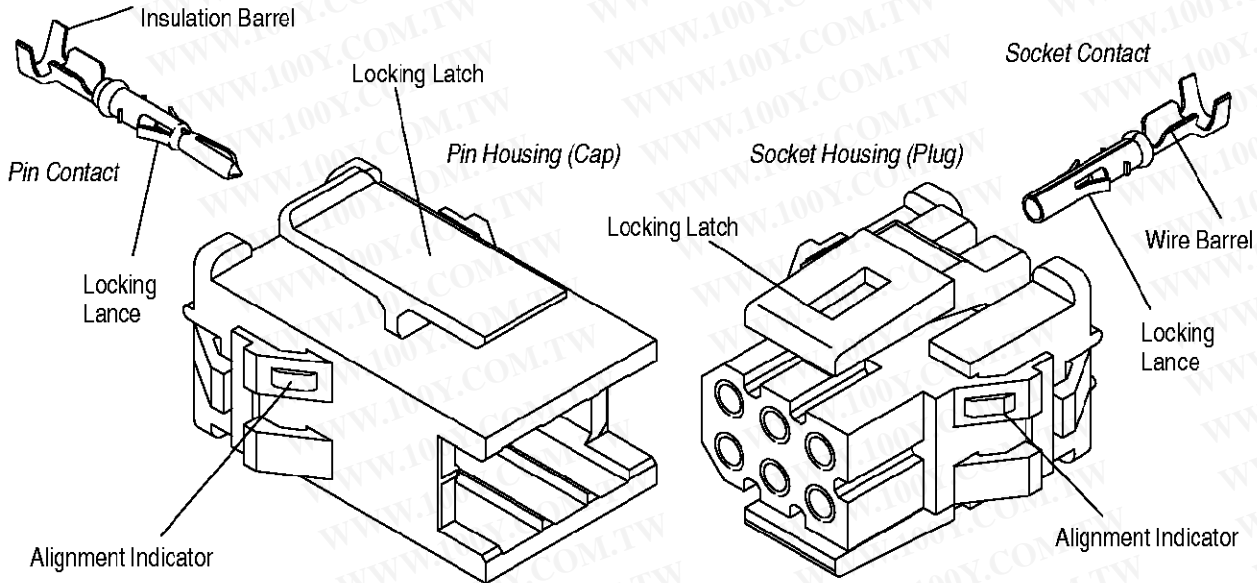

Figure 1
When corresponding with Tyco Electronics personnel, use the terminology provided on this specification to help facilitate your inquiry for information. Basic terms and features of components are provided in Figure 1.
- Added new art to Figures 1, 2, 3, 4, 6, 7, 9, and 10